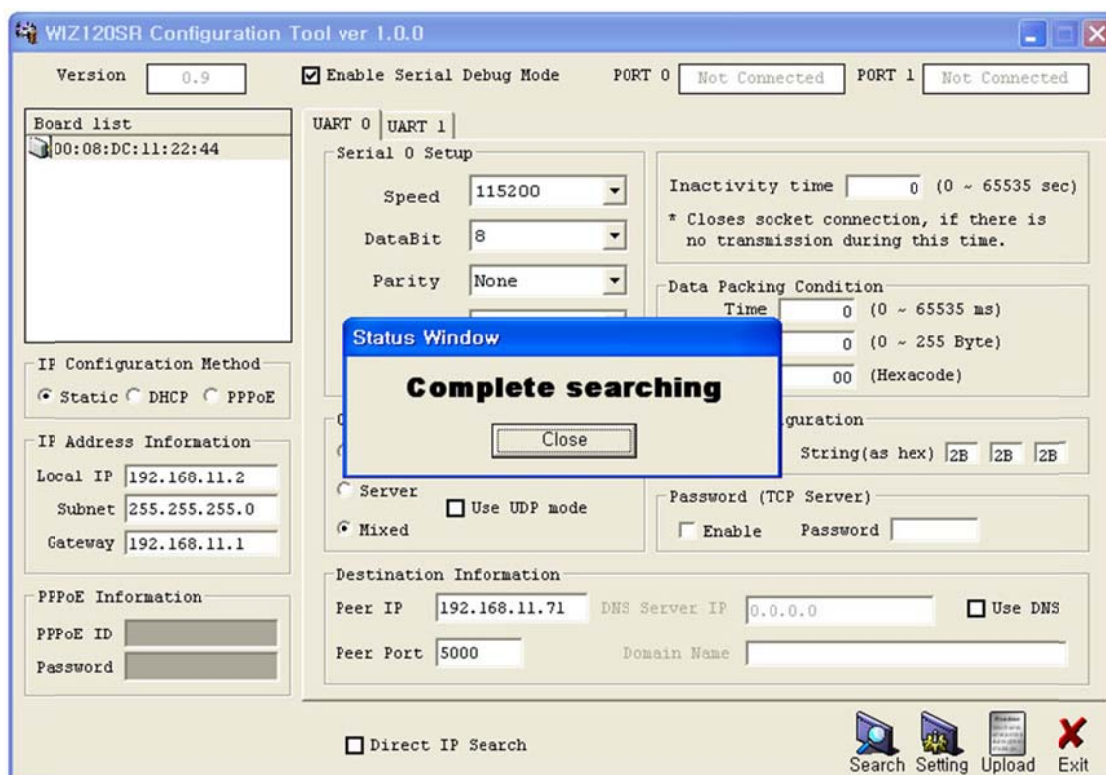

Figure 5. Board Search Window
- ① Run 'WIZ120SR Configuration Tool' program, and click the "Search" button.
- ② If the module is properly connected to the network, the "Searching Complete" message and the MAC address will be displayed on the "Board List" as shown in Figure.5.
- ③ Select a module shown in the "Board list", and click the "Upload" button.
- Before uploading the firmware through Ethernet, you should set the network information of WIZ120SR first, by Configuration Tool program as shown above in Figure 5. By using Ping test, you can check whether your network is configured correctly or not.**
- ④ When the window as shown in Figure 5 is displayed, select file to upload and click the "Open" button.